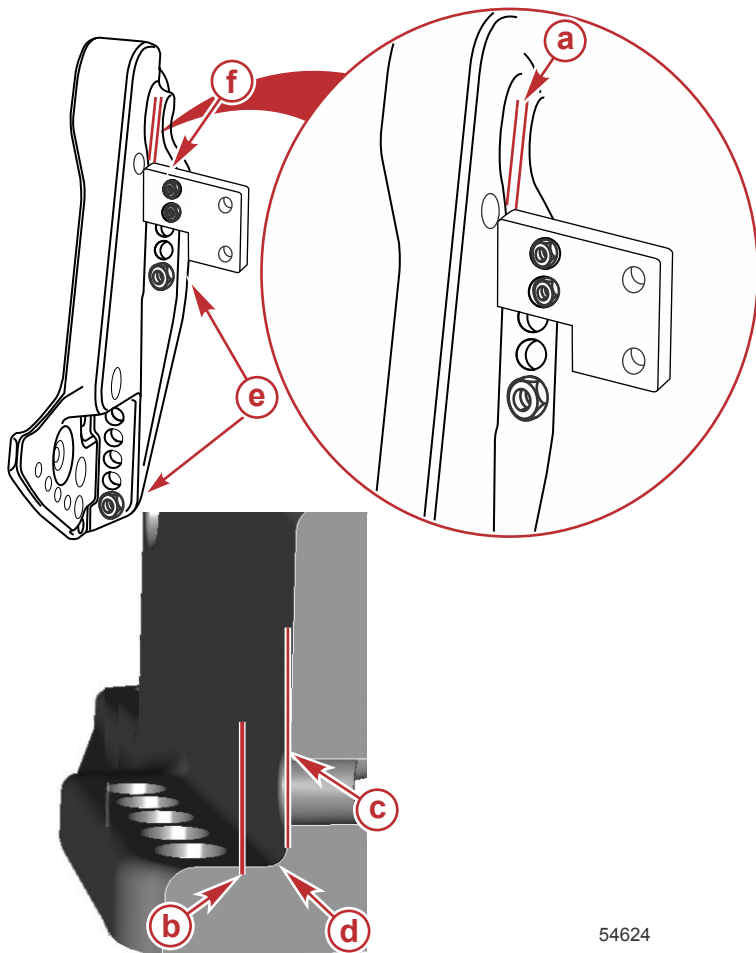

Figure 1
After the engine is mounted to the transom or jack plate in accordance with the engine installation instructions, it is acceptable to attach an accessory to the boat by use of the unused bolt holes in the transom clamp bracket as shown in Figure 1.
- The installation must not create interference issues, as would an accessory mounting plate resting in the radius of the transom clamp bracket. Refer to Figure 1.